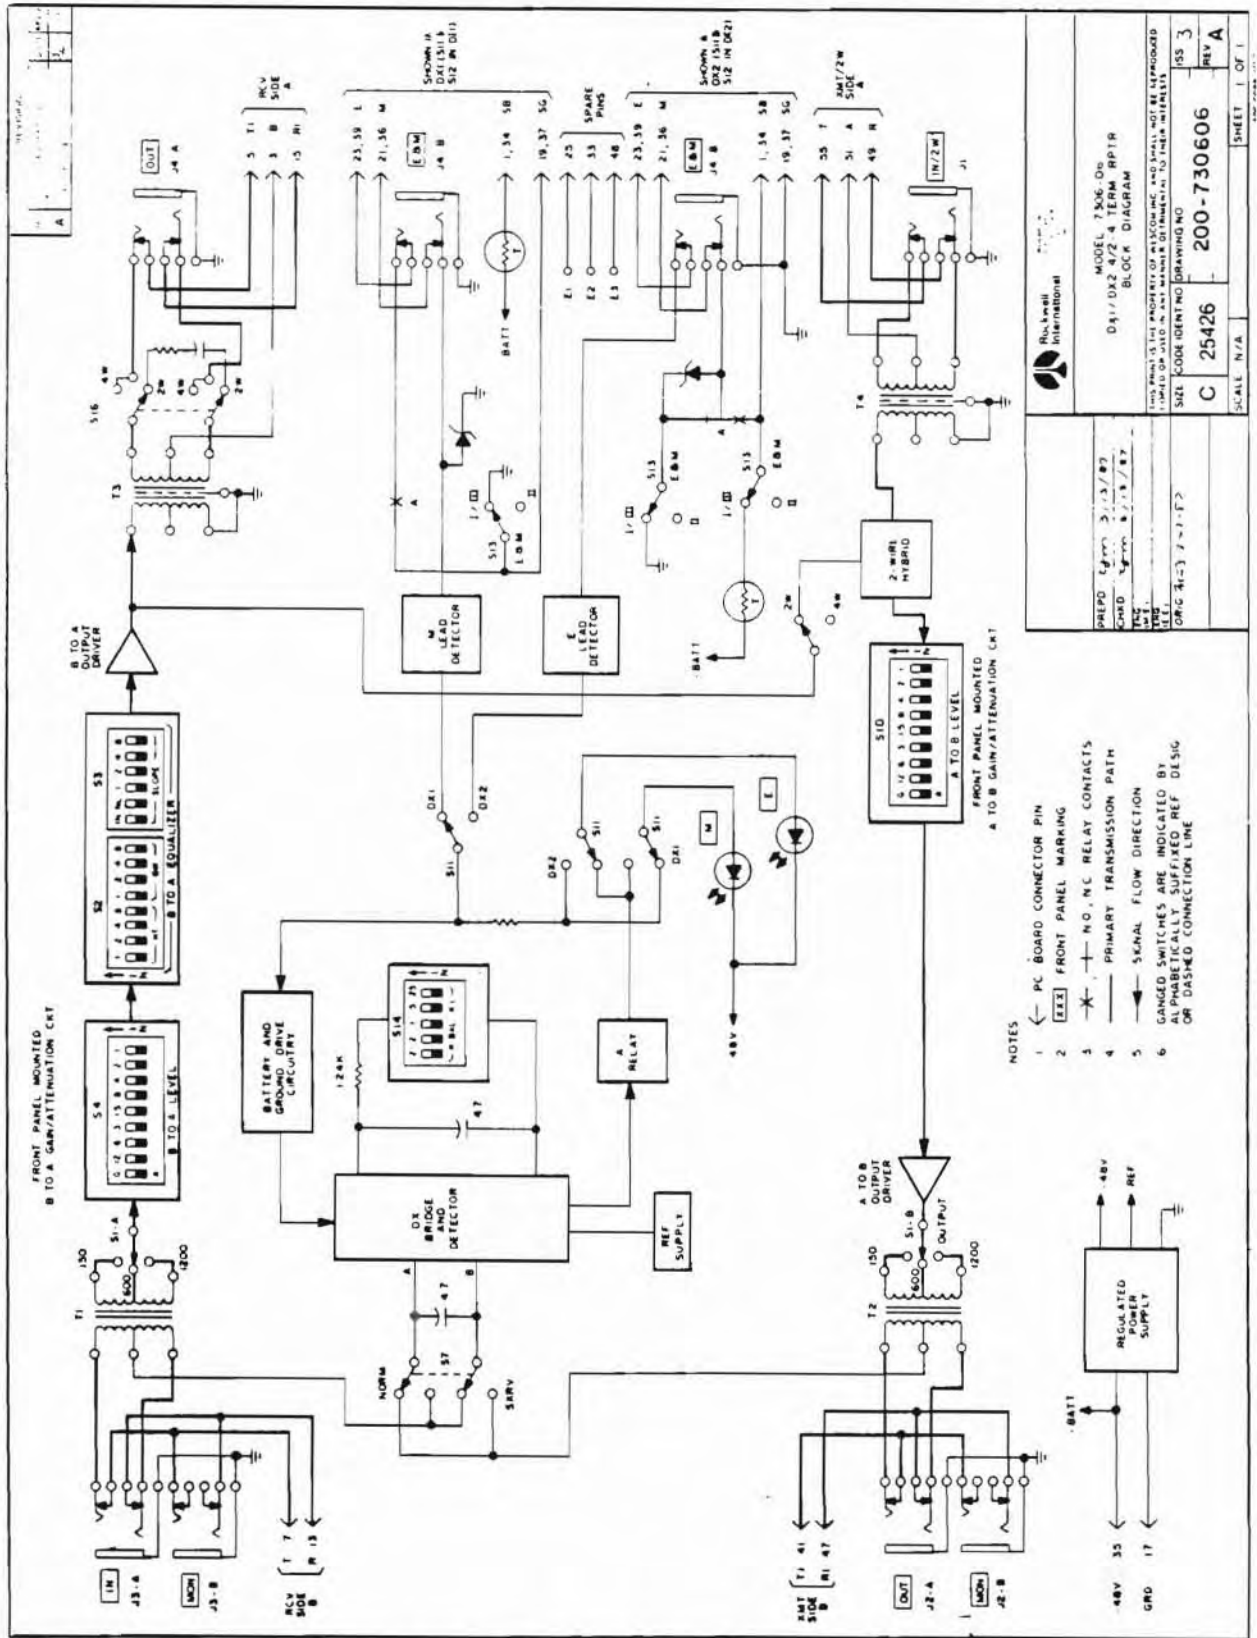

Figure 3. 7306-06 DX1/DX2 4/2-4 Terminal Repeater (Issue 3) Block Diagram
3.01 Refer to Figure 3, the 7306-06 (Issue 3) Block Diagram while reading the following circuit description. Also refer to Figures 4, 5, and 6, 7306-06 DX1/DX2 Connecting Circuits With Type I, Type II, And Type III E&M Signaling.